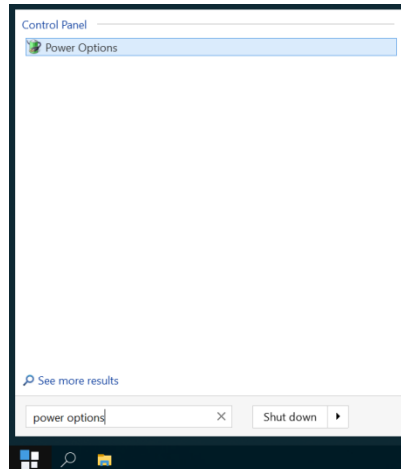

Figure 11: Search for Power Options
1. Open the Windows® Start menu and search for Power Options. Refer to Figure 11.